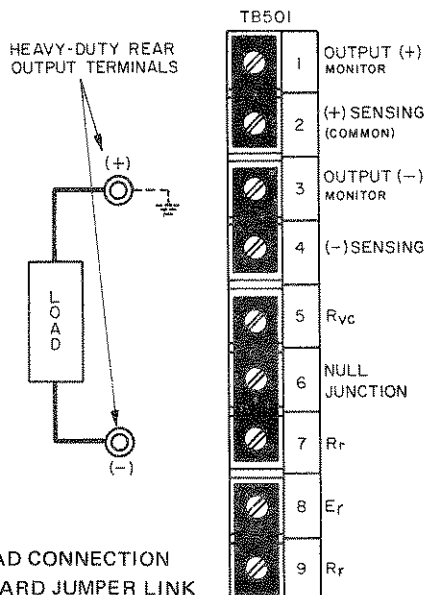
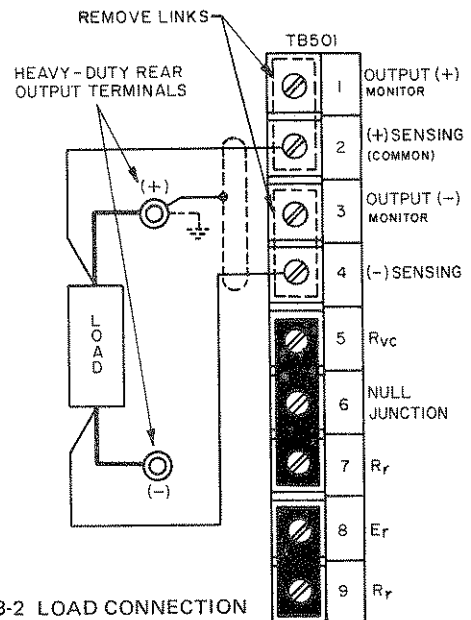

FIG.3-1 LOAD CONNECTION AND STANDARD JUMPER LINK CONNECTIONS WITHOUT ERROR SENSING
FIG. 3-2 LOAD CONNECTION USING REMOTE ERROR SENSING
3-2 GENERAL. The Power Supply is shipped from the factory with five (5) removable jumper links in place at the rear barrier strip (TB501) as shown in FIG. 3-1. THESE LINKS MUST BE IN PLACE AND SECURED TIGHTLY for standard local operation. Loose terminal links or wires at the barrier strip will cause malfunction of the power supply.
3-3 LOAD CONNECTION. The load may be connected in any of the two ways illustrated (FIG. 3-1,3-2). Load connecting wires should be as heavy as practicable, since load wire voltage drops will degrade regulation performance. Twisting of load wires will help to preserve the low output impedance of the power supply. To keep the DC voltage drop in the load connecting wires to a minimum, and to preserve the dynamic characteristics of the power supply (AC stability, output impedance and recovery time), load wires and error sensing leads should be as short and as large in diameter as practicable. Both lead pairs should preferably be tightly twisted. For minimum ripple and noise pick-up, the error sensing leads must be shielded. The shield, as well as one side of the output (preferably the positive), should be returned to the common ground point (Refer to FIG. 3-2).
3-5 Specified regulation performance DIRECTLY AT THE LOAD requires the use of remote error sensing. A twisted, shielded pair of wires from the sensing terminals directly to the load will compensate for load wire voltage drops up to 0.5 volt per wire (Refer to FIG. 3-2). Observe polarities: The positive sensing wire [from terminal (2)] goes to the positive load wire.